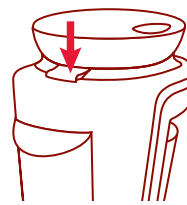

Figure 1
1. Make sure unit is unplugged. Place on a clean dry surface. Turn the unit so the back is facing you. Push down on the Ice Reservoir Release Button. Lift the back of the Ice Reservoir and remove. This will expose the Shaving Paddle and Ice Hopper. *Figure 1*